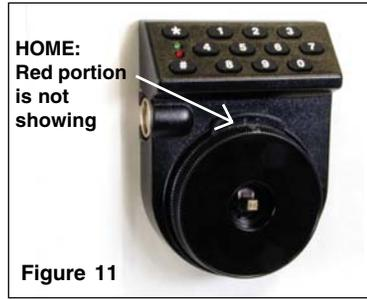

Figure 11
11. Hold the dial and orient the lip of the dial in the upright position so that it will cover the red bar on the front cover once placed onto the spindle. This is referred to as the "HOME" position. (See correct dial position in Figure 11.) Place the dial onto the spindle and seat into the dial bushing. Push gently on the dial so that the gear on the generator seats properly into the gear teeth on the dial.
Note: The lock case assembly can be mounted in bolt roller up position or bolt roller down position (Figure 11) for all mounting locations. It is recommended that you use Loctite® 262 (Red) on the lock case mounting screws.